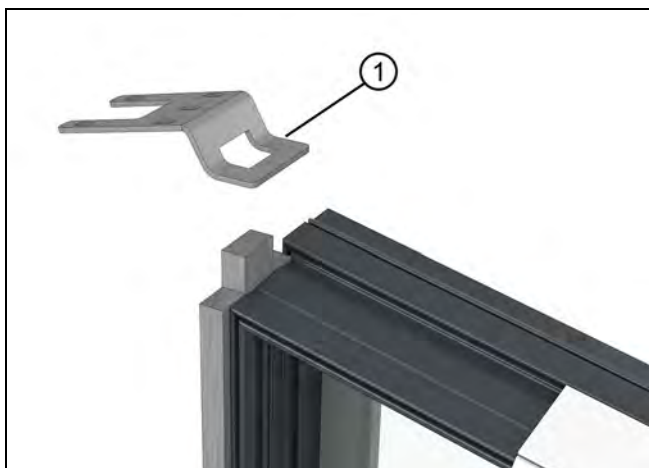
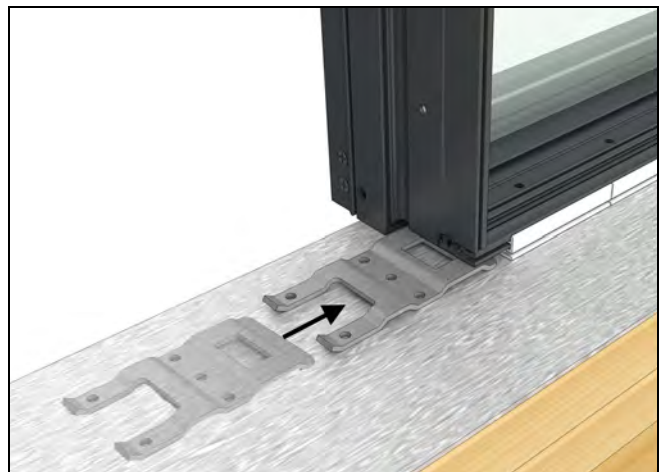

Figure 164 Interior view
Figure 166 Standard flat steel mull bracket at sill
1. Flat Steel Mulls: will use the polygon bracket at the head jamb and standard bracket at the sill. See Figure 164, Figure 165, and Figure 166.